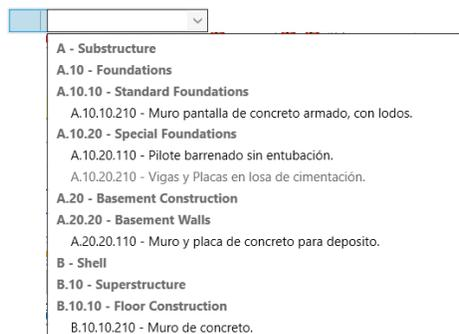

Figure 17 Move selected elements to another Activity
- **Move selected items to Activity.** Moves the selected quantity items to another Activity, being very useful for massive item moves from one activity to another. Once you click this option, a combo box will appear to select the destiny activity. The assigned sub-activity in the destiny activity will be *All Sub-Activities* (Figure 17).